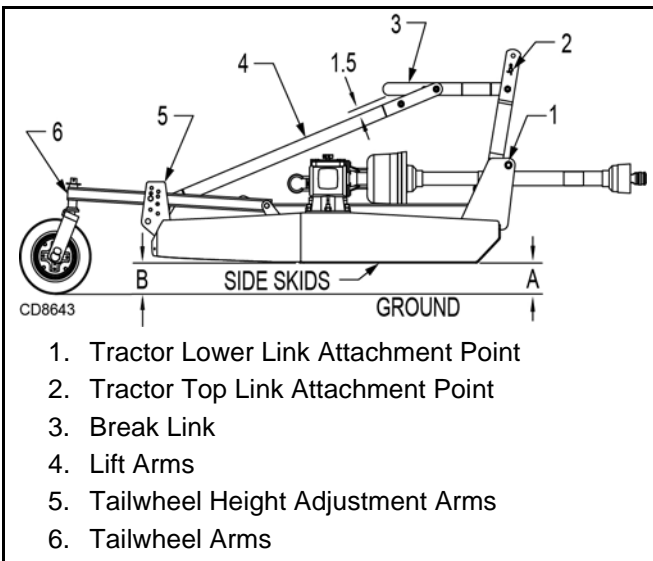

Figure 9. Cutting Height Adjustment
Loosen the jam nut on the attitude rod that runs from the tongue to the tailwheel. Adjust rod in or out until position B is approximately 1/4 to 1/2 inches more than position A. Refer to Figure 9.
Adjust tractor 3-point hitch to obtain a distance of 2-3/4 inches at position "A" to obtain a 4" cutting height. See Figure 9.
Adjust top link to provide 1-1/2" of clearance between the break link (2) and the rear lift links. See Figure 9.